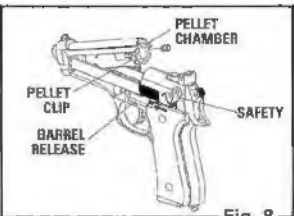

Fig. 8
- Open the barrel by pushing the barrel release forward until the barrel pops open. (Fig. 8)
- Remove the pellet clip and place a .177 pellet, nose first, in each pellet chamber. (Fig. 8) To avoid jams or deforming the pellets, make sure the pellet skirt is level or slightly below the rim of the pellet chamber.
- Replace the pellet clip on the barrel as shown in Fig. 8.